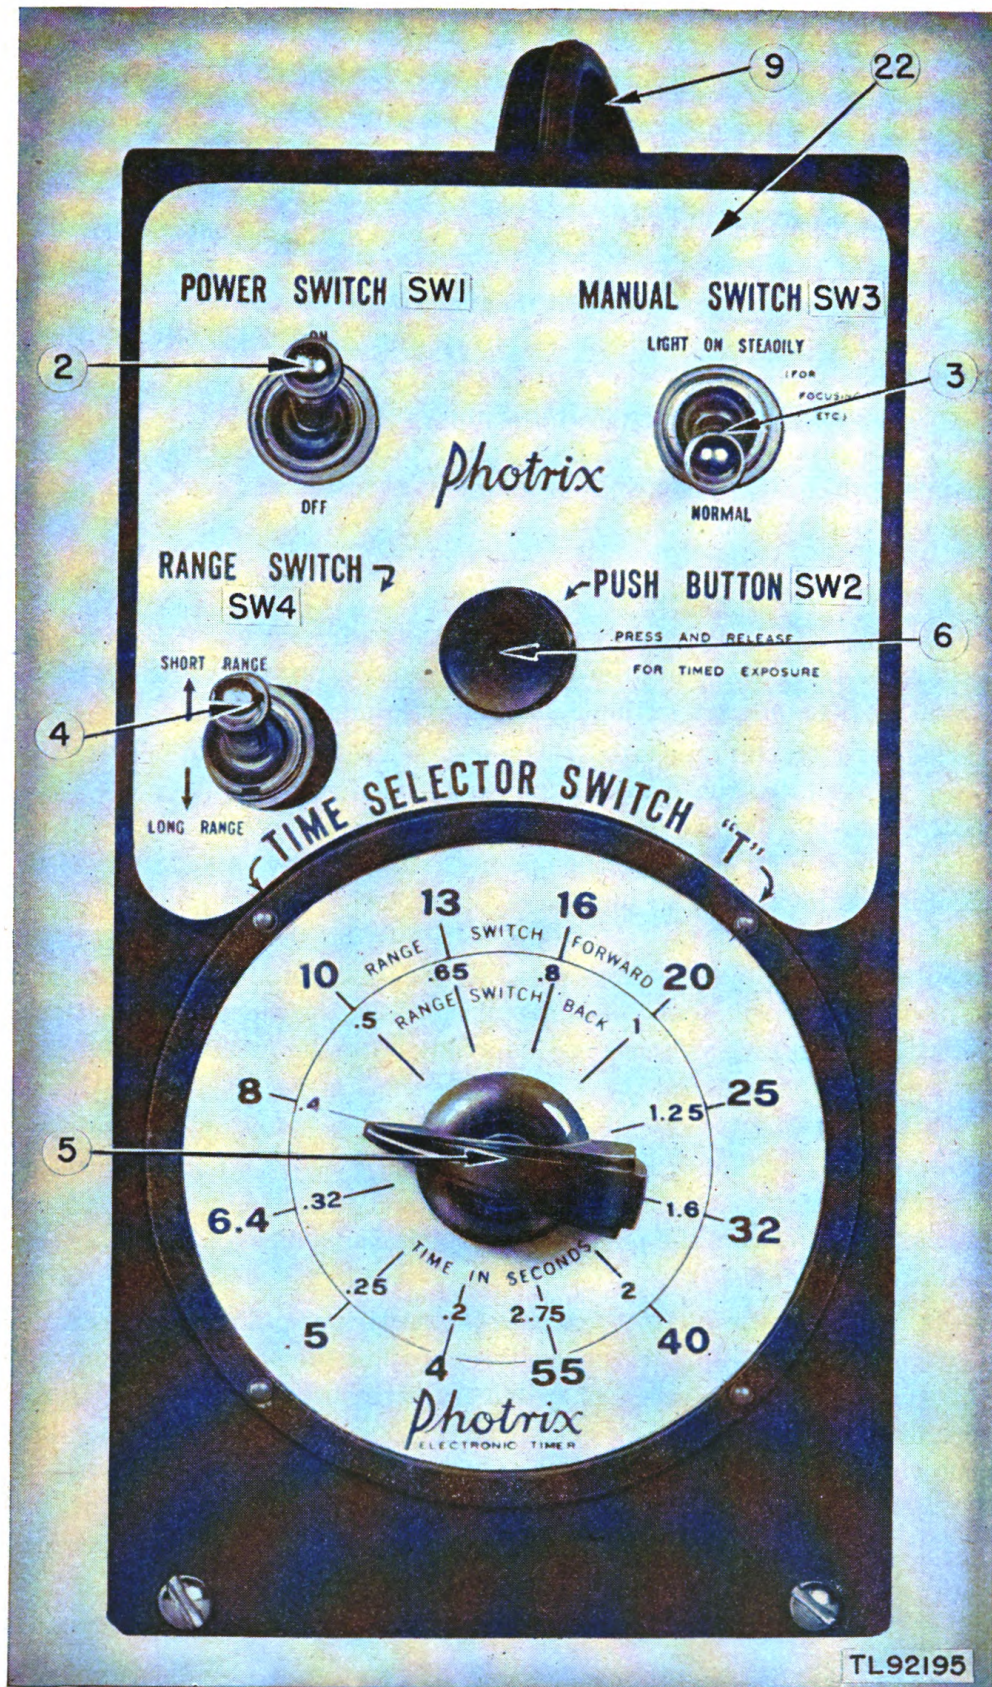

Figure 5. Top view showing controls.
4. Preparation for Use (fig. 5)
b. When the timer has been connected and tested as outlined in a(1) through (8) above, it is ready for actual operation. Load the negative in the enlarger or printer and turn manual switch ③ to the LIGHT ON STEADILY position to focus. Return the MANUAL SWITCH to NORMAL, then set the time switches to the desired exposure. Put sensitized material in the easel or frame and press push-button switch ⑥ to make the exposure. For shading, spot-printing, dodging, etc., use the manual switch ③. When work is complete, throw power switch ② of the timer to the OFF position.
6. Remote Control Operation (figs. 5 and 6)